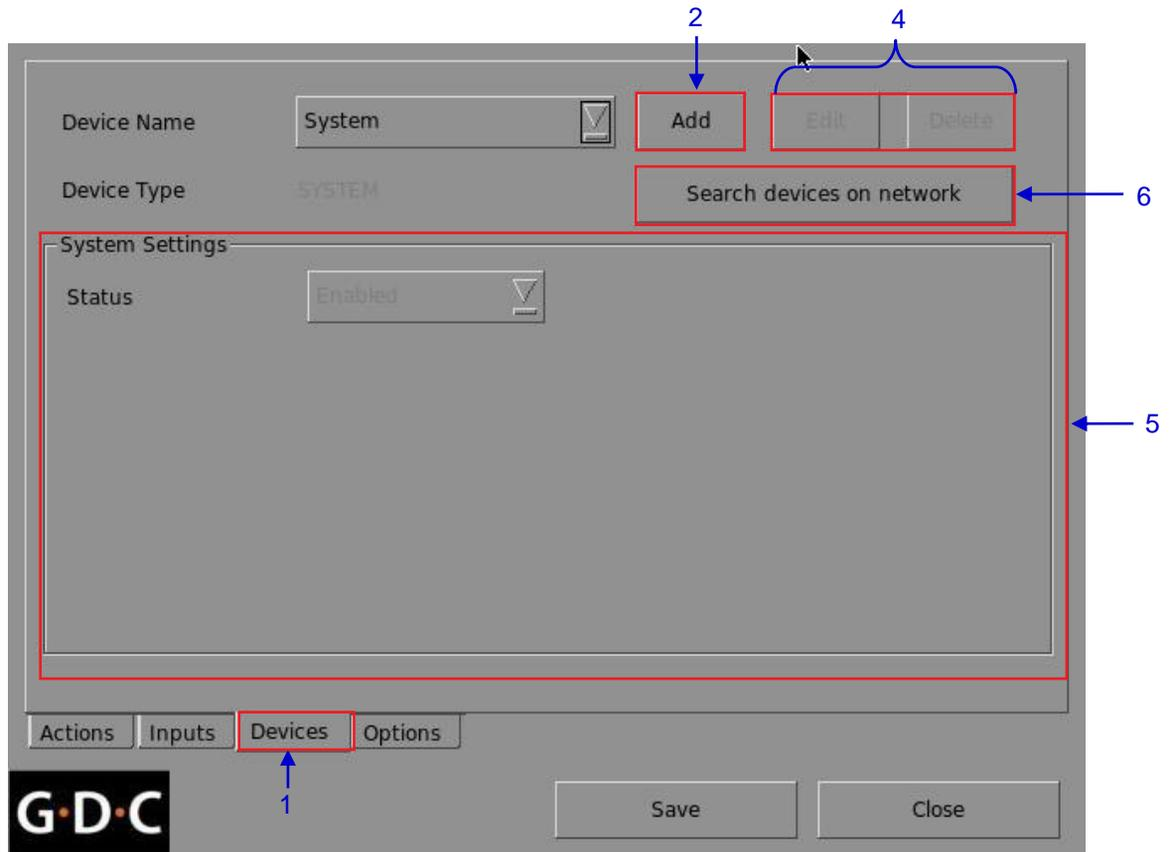
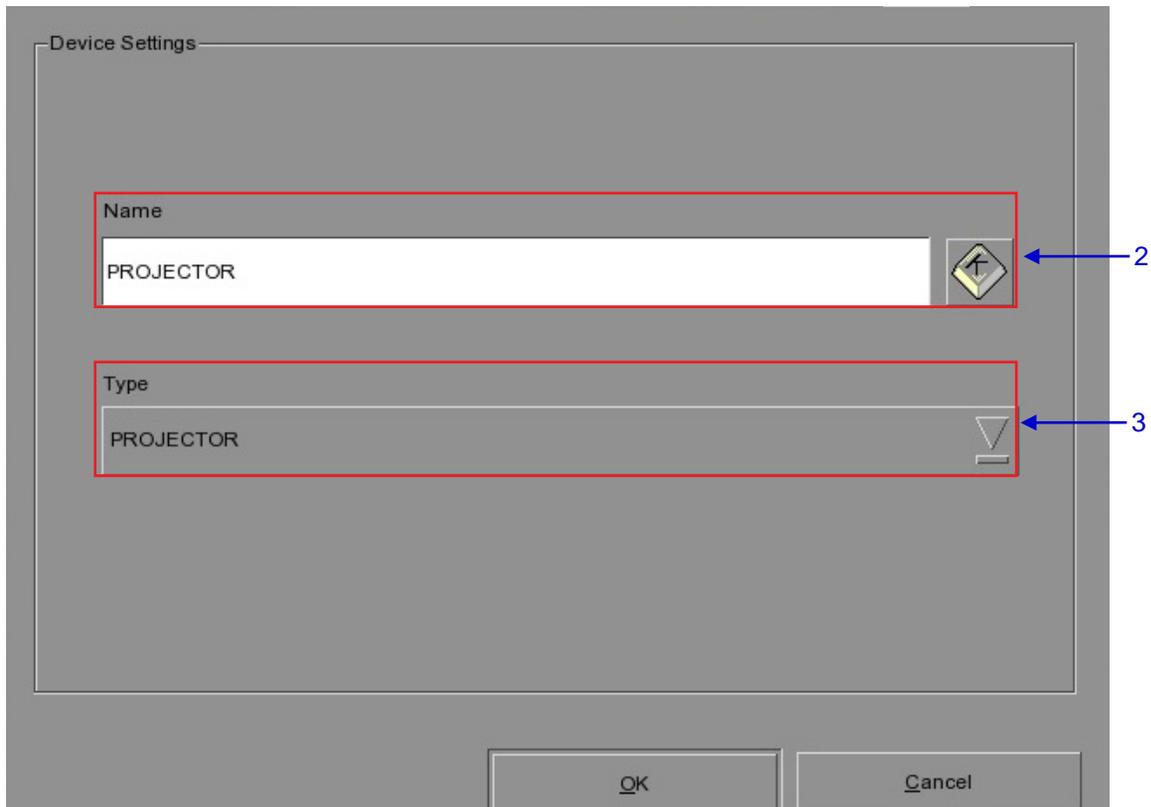

Figure 23 Devices menu.
Figure 24 The device configuration window.
- 1 On the Automation menu, press Devices. A new window opens as seen in Figure 23. In the Devices menu, the System is the default device name. The System device is the IMB from which all received commands will be forwarded to the sub-systems in the IMB. (continued on next page)
2	To add a new device, press Add . A new window appears as seen in Figure 24 . Type in the name you want to assign to a particular device.
4	You can edit or delete the device name on the dropdown list in the Devices menu (please refer to Figure 23). The device configuration window as seen in Figure 24 opens when you press Edit to edit the existing device name. The device name is deleted immediately after pressing Delete .